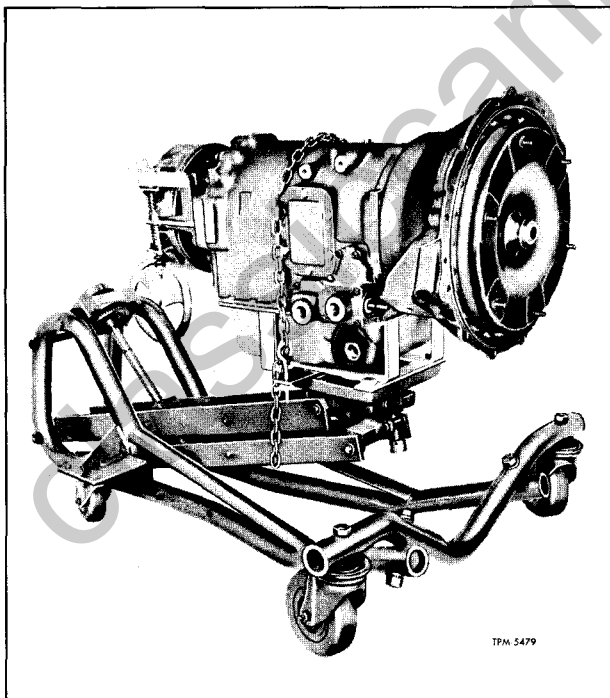

Figure 6—Transmission Mounted on Hydraulic Jack
13. Support the transmission with a 1,000 lb. (minimum) transmission floor jack (fig. 6). The jack must be positioned so transmission oil pan will not support the weight of the transmission. Fasten a safety chain over top of transmission and to both sides of the jack.
1. Raise vehicle sufficiently to allow installation of transmission. With transmission assembly properly mounted on transmission jack as shown in figure 6, move transmission into position aligning converter housing with flywheel housing. Check for and clean away any foreign material in flywheel pilot hole and on flywheel flex plate assembly and converter housing face. Rotate flywheel as necessary so that the six studs on the converter cover can freely enter holes in engine flywheel flex plate assembly. Carefully move transmission assembly toward engine so studs can enter holes in flex plate and so that pilot on transmission enters pilot hole in center of flywheel.